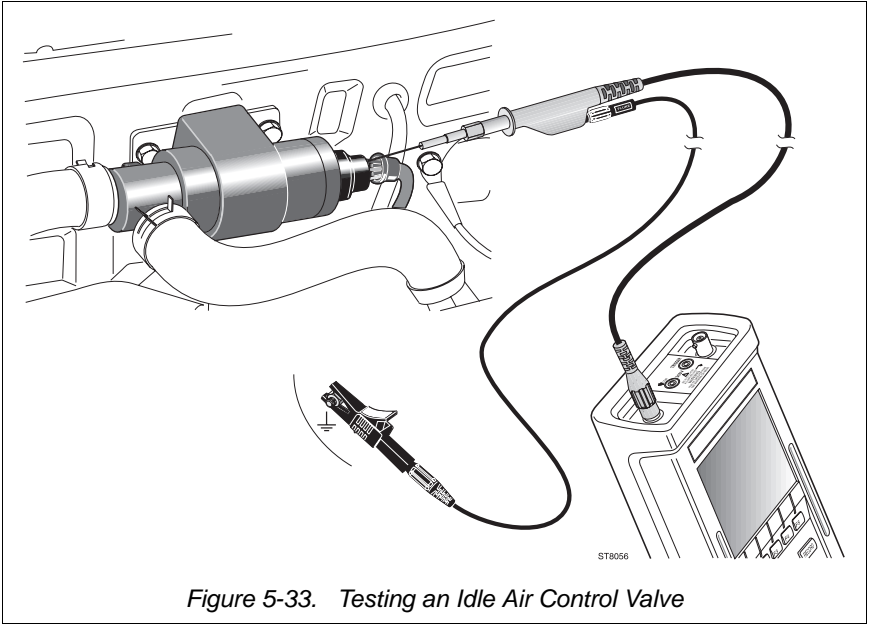

Figure 5-33. Testing an Idle Air Control Valve
③ Connect the test leads as displayed by the test tool's Connection Help and shown in Figure 5-33.
④   Starts the Idle Air Control test.